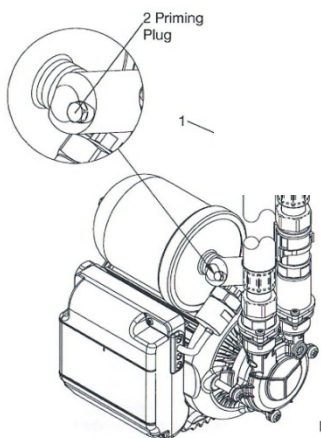

Fig 1.1a Pump priming plug
1.2.5 Ensure the pump is primed before starting otherwise the pump seal will be damaged and cause a leak (see fig 1.1a).
- 2.2.10** ensure the pump is primed (filled with water) before starting otherwise the pump seal will be damaged and cause it to leak (see fig 1.1a).